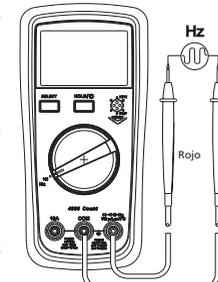

Fig. 4
7. FREQUENCY MEASUREMENT (see fig. 4)